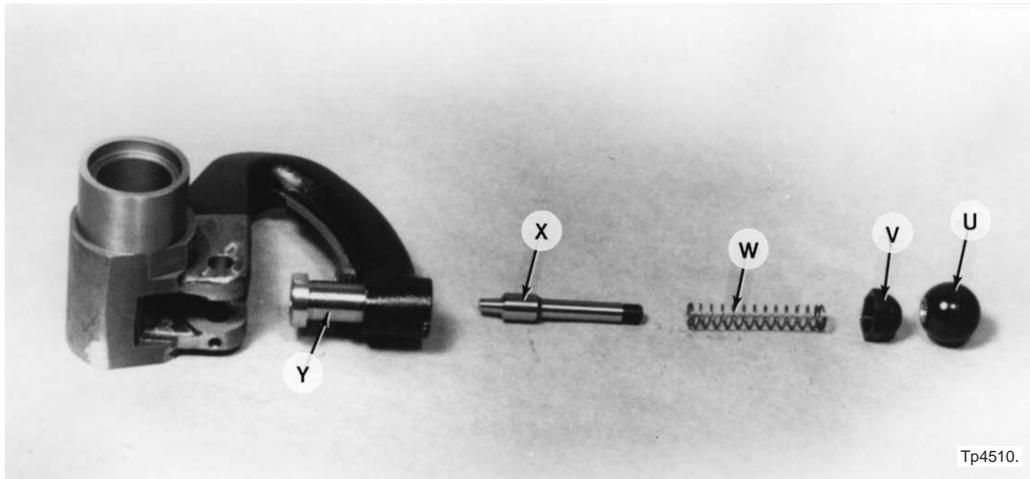

Figure 4.54 - Plunger Assembly Components
- g) Remove ball handle "U", Figure 4.54, nut "V", spring "W", plunger "X" and bushing "Y".